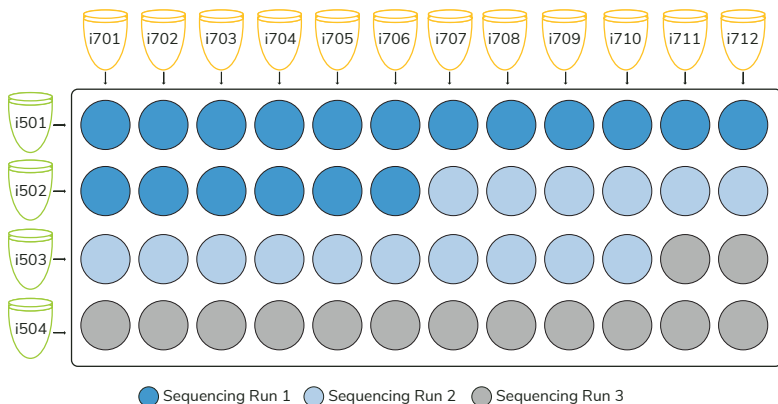

FIGURE 20
Figure 20 provides an example of how i5 & i7 primer pairs can be selected across three different sequencing runs. Although the i5 primers shown are from 14-1102, the same principles apply for 14-1103.
- For Sequencing Run 1 in Figure 20 (dark blue), begin by pairing the first i5 primer (i501) with the first i7 primer (i701).
- In subsequent experiments, begin primer selection where the last run stopped. In Figure 20, Sequencing Run 1 ends with i502 & i706 (dark blue). When selecting primers for the next CUT&Tag experiment, begin with i502 & i707 (Sequencing Run 2; light blue).